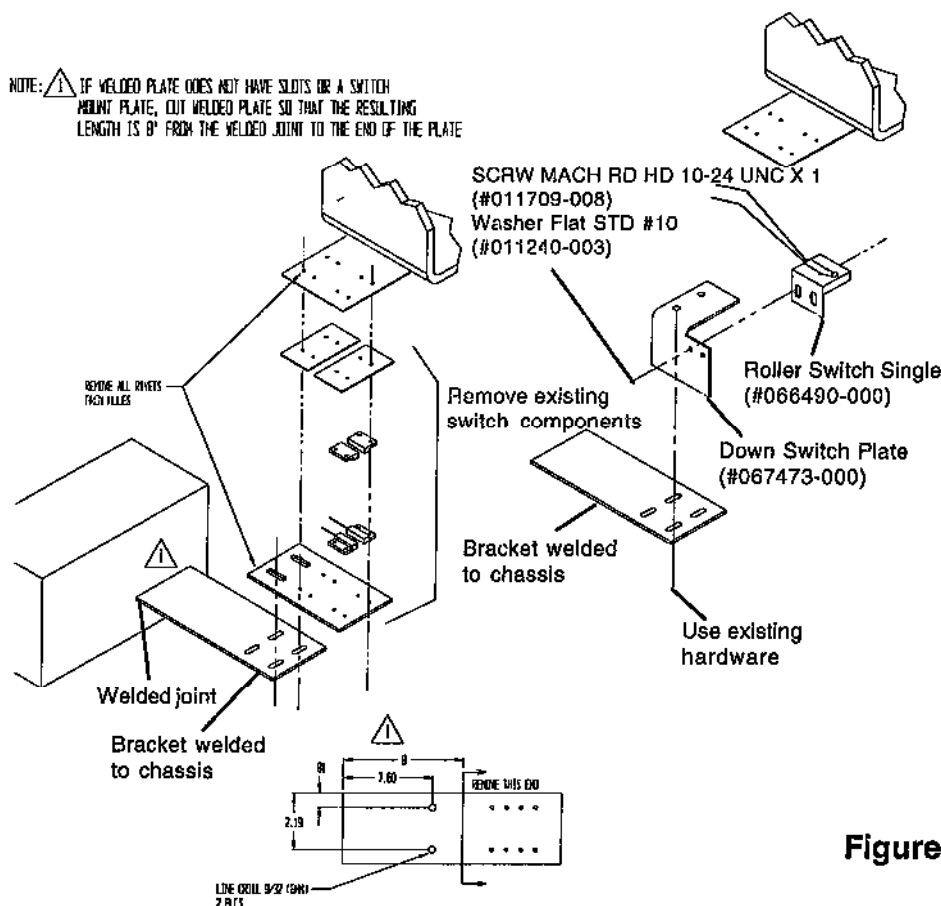

Figure 2
3. Remove the existing white proximity switches, rivets and shim plates. See Figure 2.
5. Attach Roller Switch Single (#066490-000) and Platform Down Bracket (#067473-000) as shown in Figure 2.
2. Remove the existing white proximity switches, rivets and shim plates. See Figure 2.
4. Attach Roller Switch Single (#066490-000) and Platform Down Bracket (#067473-000) as shown in Figure 2.